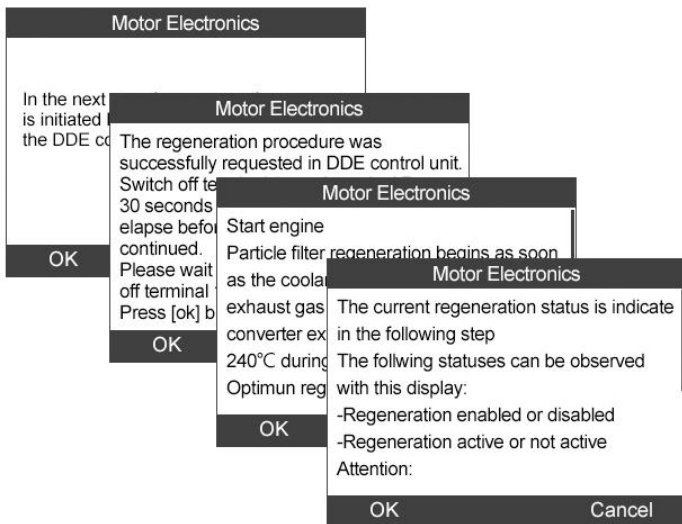
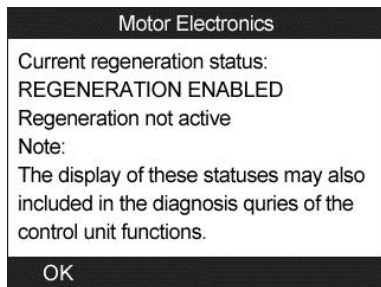

Figure 13.24
Figure 13.25
- 4) A series of instruction screens appears for users to perform the particle filter regeneration step by step. Follow the onscreen instructions and press the **OK** button.(Figure 13.24) Do this until the tool reads off the regeneration status as below.(Figure 13.25)